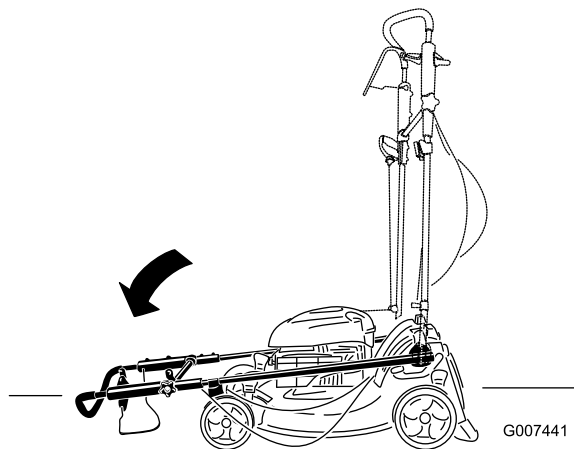

Figure 49
2. Move the handle all the way forward and loosen the upper handle knob (Figure 49).